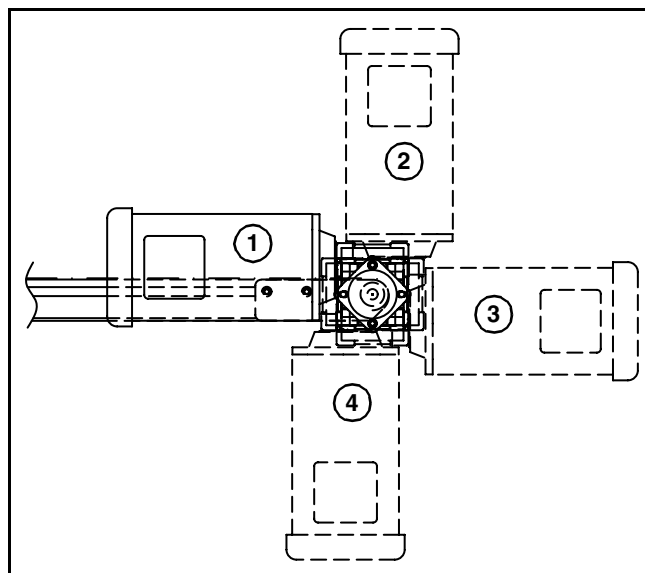
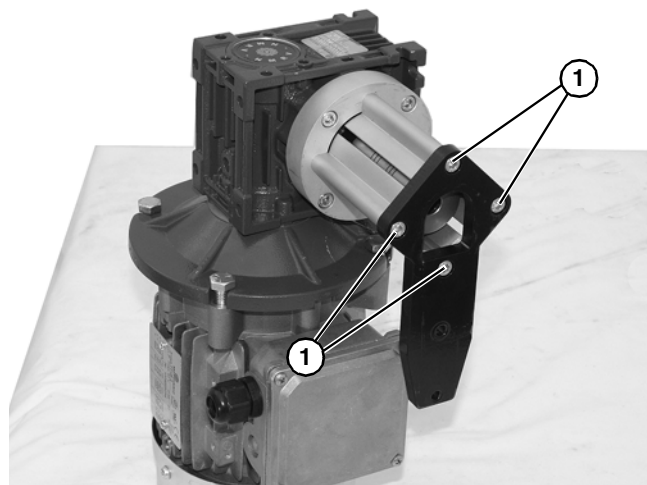

Figure 5
Figure 6
Gearmotor may be operated in positions 1, 2, 3 or 4 (**Figure 5**).
2. If required, change gearmotor position by removing four (4) screws (**Figure 6, item 1**). Rotate gearmotor to other position (**Figure 5**) and replace screws (**Figure 6, item 1**). Tighten to 100 in-lb (12 N-m).